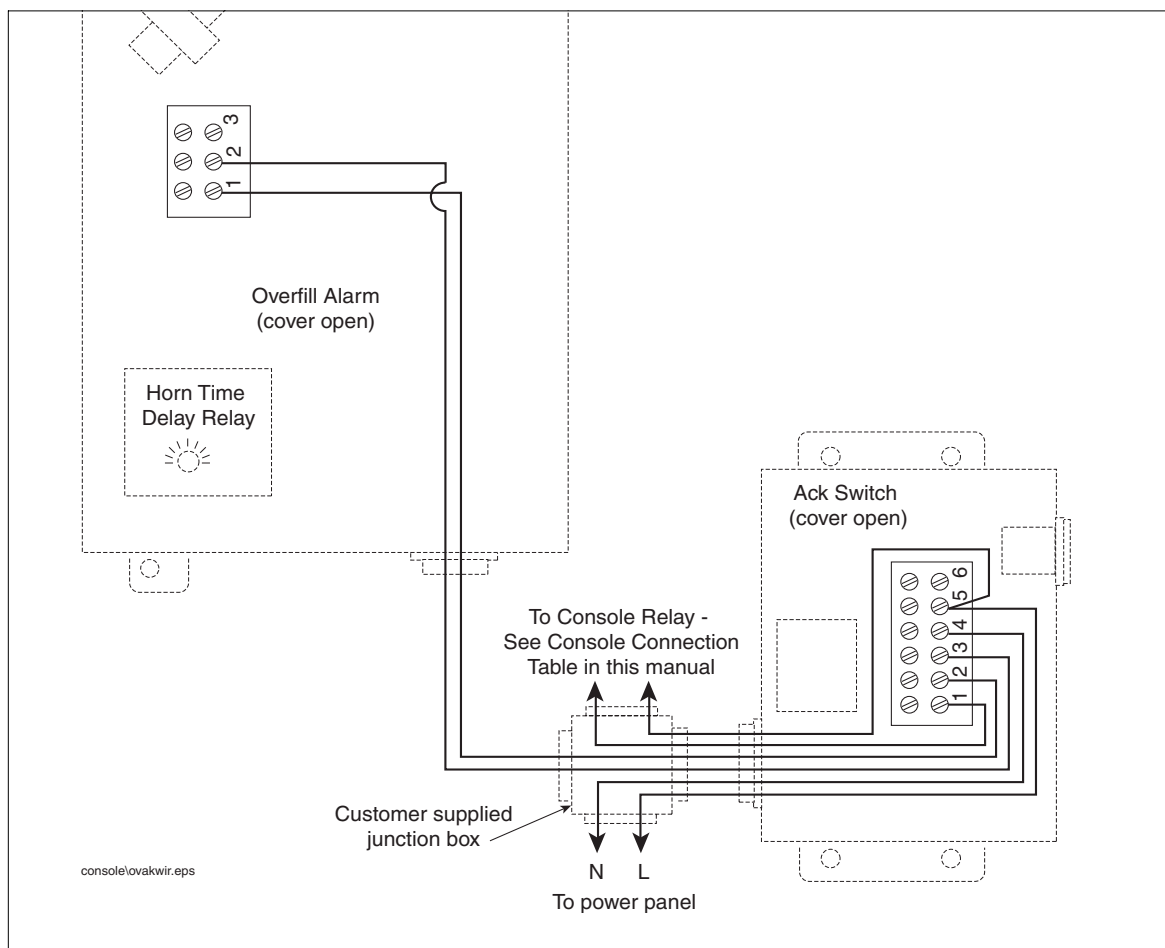

Figure 3. Overfill Alarm/Acknowledgement Switch wiring connections
5. Turn power Off and connect wiring according to the wiring diagram in Figure 3 and Table 1.
Overfill Alarm with Acknowledge Switch (see Figure 3)
2. Locate the Horn Time Delay Relay (see Figure 3).